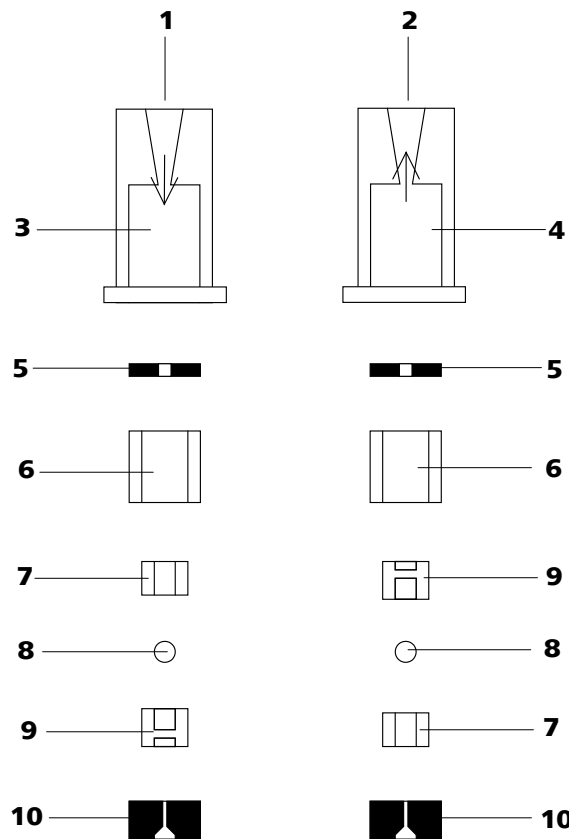

Figure 36 Components of the inlet valve and outlet valve
- The inlet valve and the outlet valve consist of the same, just differently arranged components (see figure 36, page 65).
Reassemble valve components *according to figure 36, page 65*.
- Lay the other valve components above another in the correct sequence (*see figure 36, page 65*).
If this is not the case, the valve has to be dismantled again and be reassembled correctly (see figure 36, page 65).